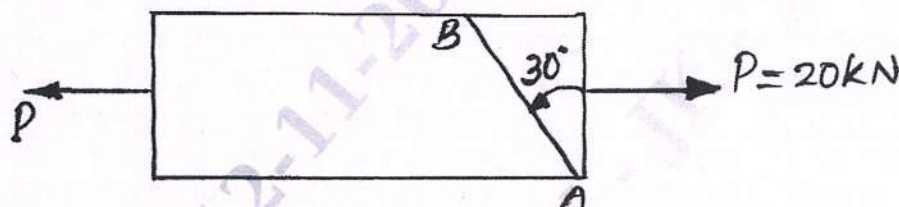

Fig.Q9(b)
- b. A circular bar of 25mm diameter is subjected to an axial force of 20kN as shown in Fig.Q9(b). Determine the normal and tangential stresses on an inclined plane AB shown.